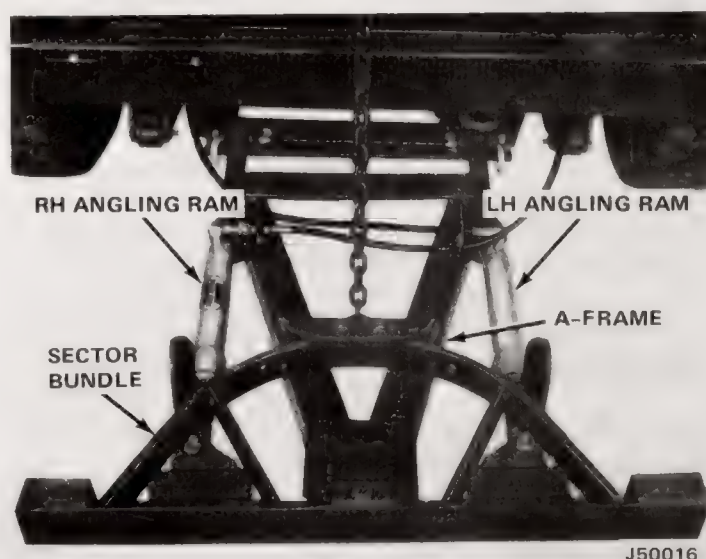

Fig. 1-20 Power Angling Rams and Hoses
- (3) Attach power angling rams to A-frame and sector (fig. 1-20). Tighten bolts to 30 to 40 foot-pounds torque.